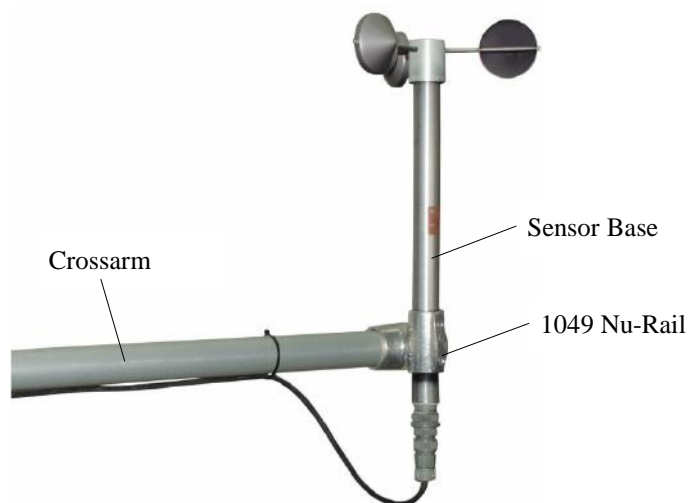
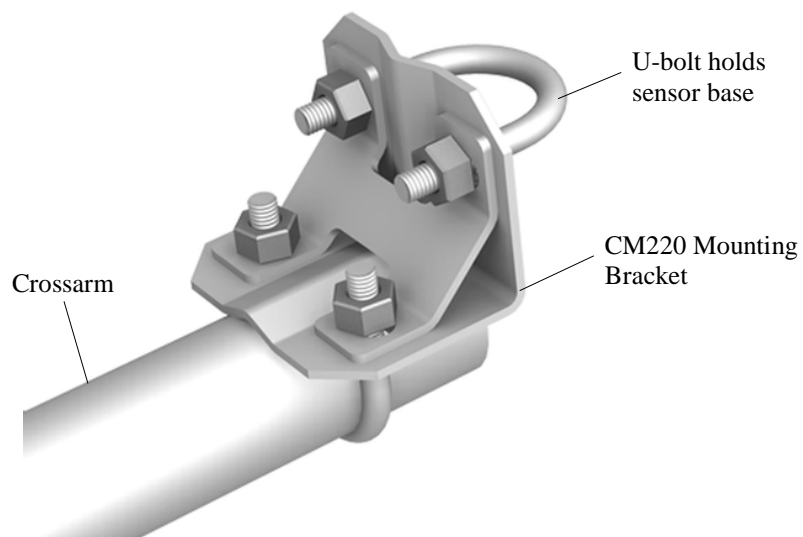

FIGURE 7-3. 014A mounted on a crossarm with pn 1049
FIGURE 7-4. CM220 Right Angle Mounting Bracket
2. Orient the crossarm North-South, with the CM220 (FIGURE 7-4) or 1049 Nu-Rail (FIGURE 7-3) on the north end.
3. Insert the base of the 014A into the Nu-Rail or CM220 U-bolt (FIGURES 7-3 and 7-4) and tighten the set screws on the Nu-Rail, or U-bolt on the CM220 (do not over tighten).